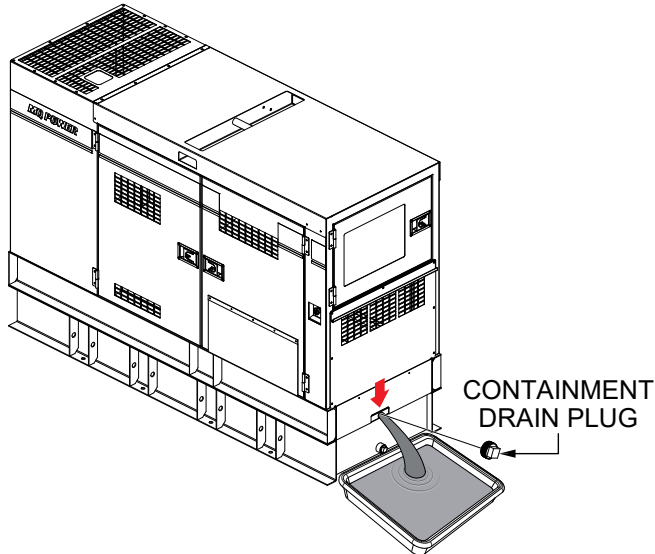

Figure 53. Draining The Containment Tank
2. If the containment tank becomes full with fluids, remove the **containment tank drain plug** (Figure 53) and allow the fluids to drain into a suitable container.